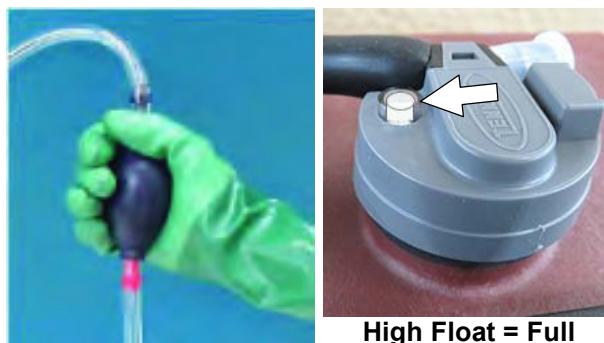

FIG. 122
6. Squeeze the bulb on the hand pump hose until firm. The indicator float will rise when full (Figure 122).